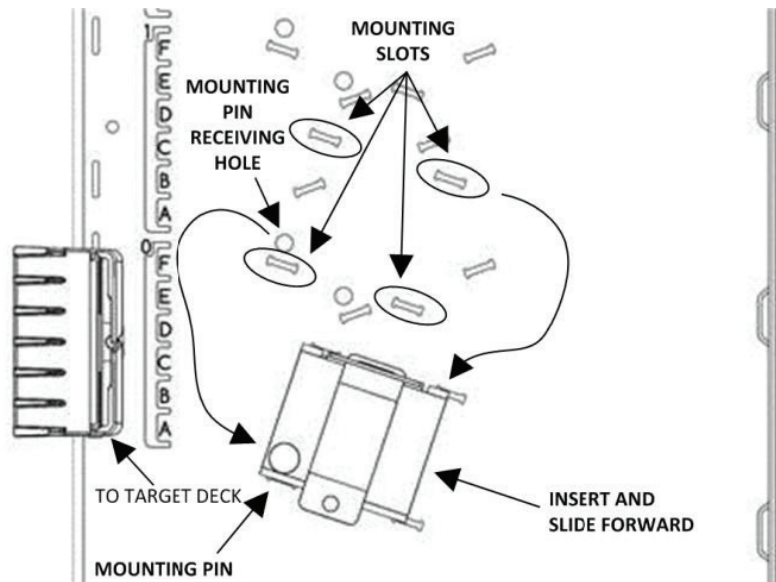

Figure 25
6.1.5 Mount the cable clamp to the Frame by inserting the clamp base at the desired location and sliding until the mounting pin engages the hole (Figure 25).